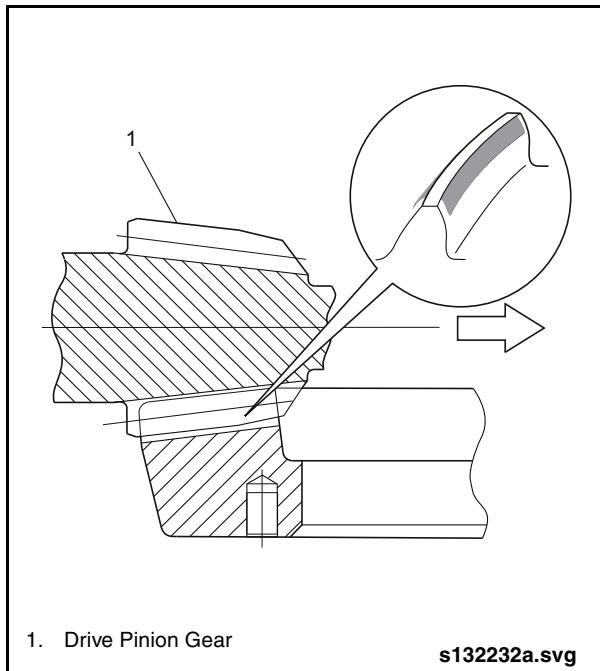

Fig. 2-73: Contact on Tooth Tip
1. If there is contact at the tooth tip, increase the installation depth of the drive pinion by using thinner shims. See "Fig. 2-73: Contact on Tooth Tip" on page 63.